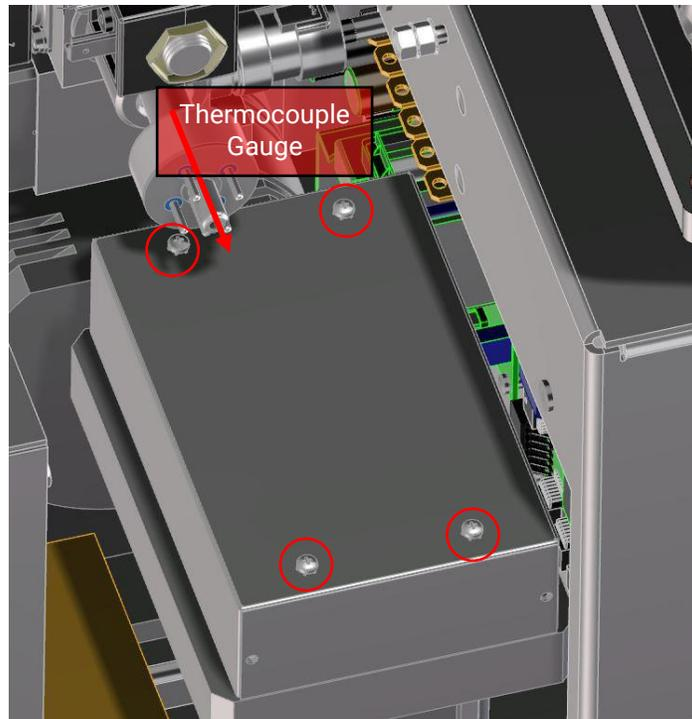
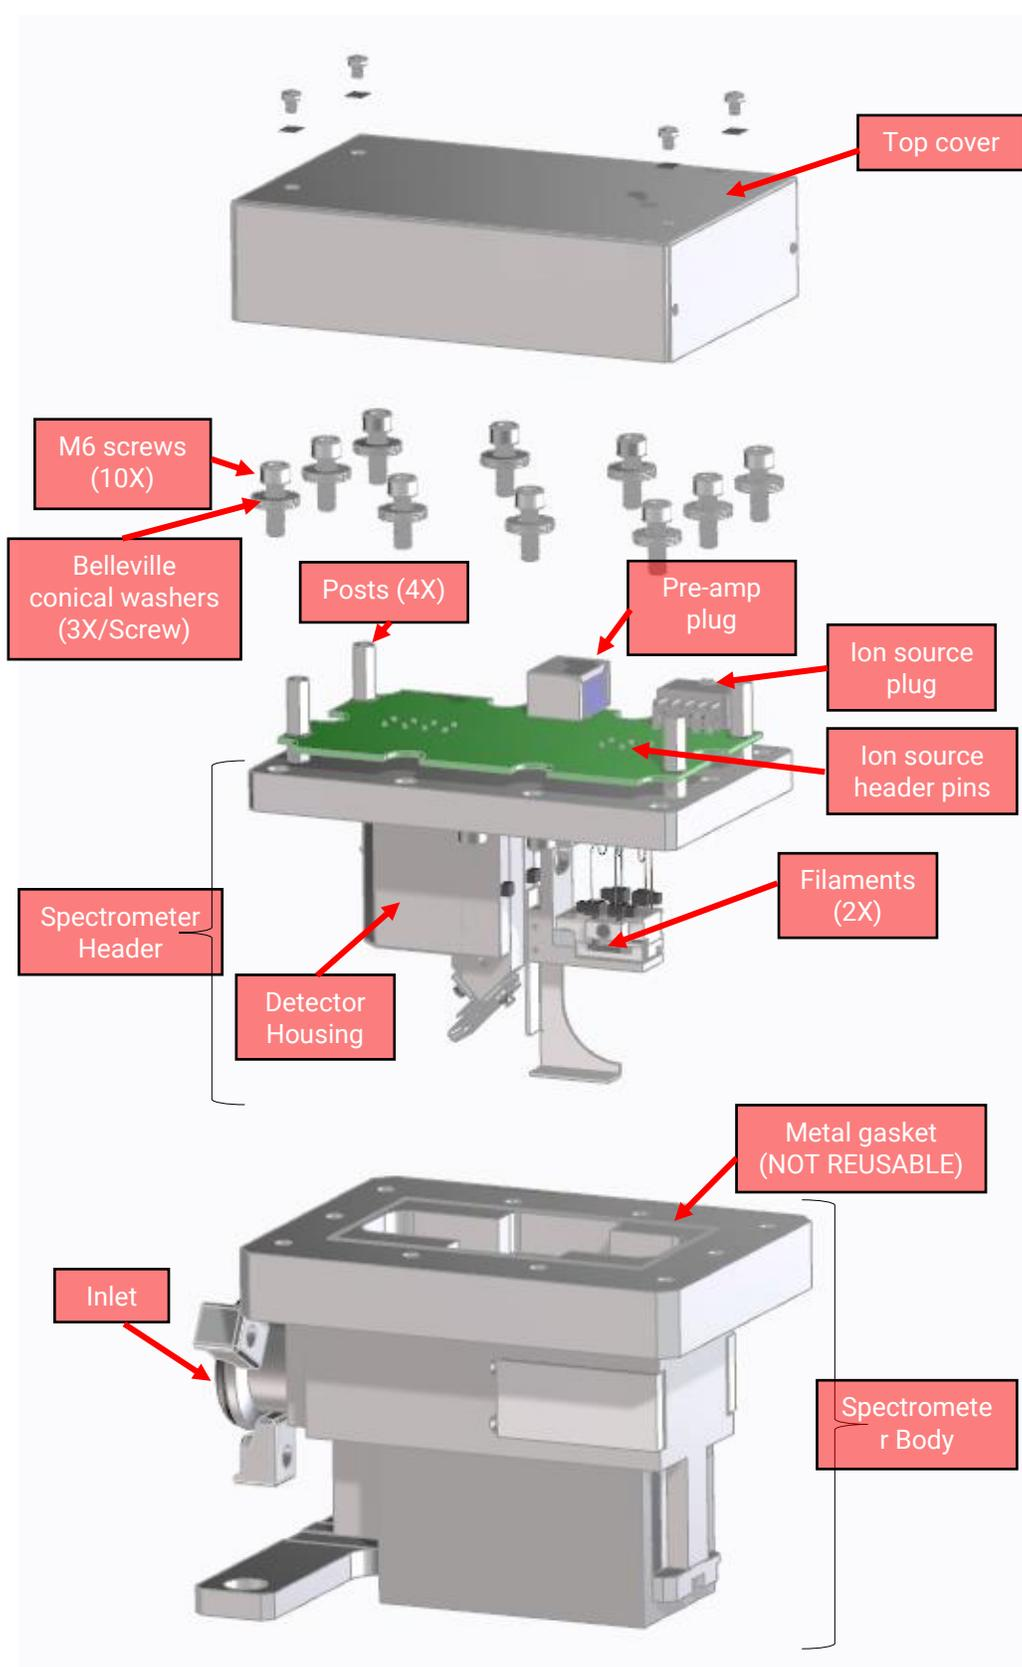

Figure 3-4. Spectrometer access
Figure 3-5. Spectrometer exploded view
7. To remove the spectrometer top cover, it may be necessary to first pull straight out the thermocouple gauge (shown in Figure 3-4 with the red arrow. It is shown without the outside black plastic cover). Leave the thermocouple gauge connected to its wiring. Use an M3 Phillips head screw driver to remove the four screws securing the aluminum spectrometer cover. The screw shown in the top right of Figure 3-4 will be securing a grounding strap. Leave the ground strap hanging from the leak detector frame. Disconnect the two electrical cables plugged into the spectrometer board, the pre-amp RJ45 style connector on the turbo side of the spectrometer, and the ion source multi-pin connector (Cables not shown for clarity; refer to Figure 3-5). Remove the top cover, set aside with the screws.
8. Refer to Figure 3-5 for reference in disassembly of the spectrometer header. Loosen screws (10X) and remove spectrometer header from spectrometer body. The vacuum system vents to atmosphere as the screws are loosened. Retain the socket head cap screws and Belleville washers. Maintain correct orientation of Belleville (conical) washers when removing.